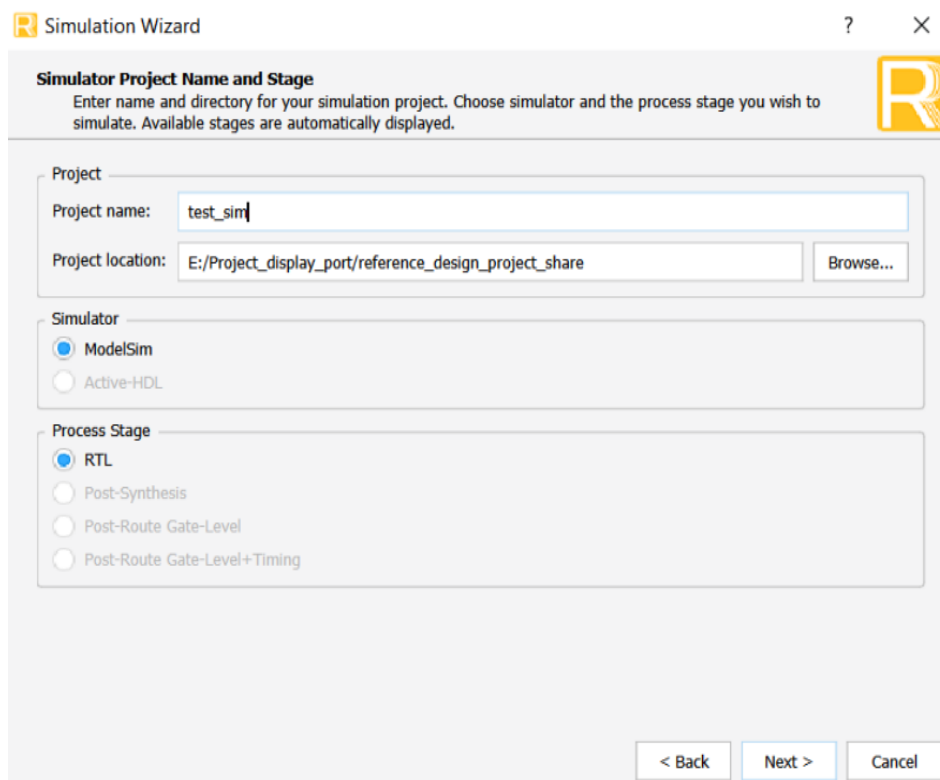

Figure 5.12. Simulation Wizard - I
2. Enter the project name in the simulation wizard and click on the **Next** button as shown in Figure 5.12.